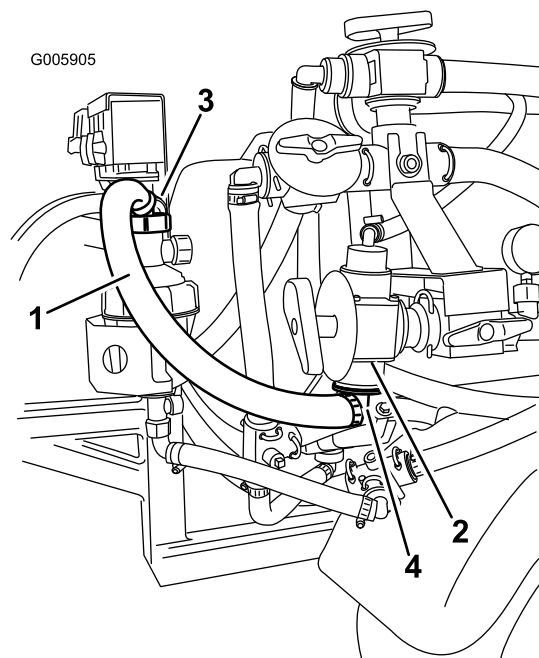

Figure 56
4. Install the 70 degree fitting on this hose to the open port on the top of the pressure filter installed previously. Use the plastic nut on the fitting to secure the hose to the pressure filter (Figure 56).
5. Route the remaining end to the vertically orientated rinse valve on the control valve assembly. Install the 90 degree fitting to the open port on the rinse valve and use the existing large fork to secure the connection (Figure 56).